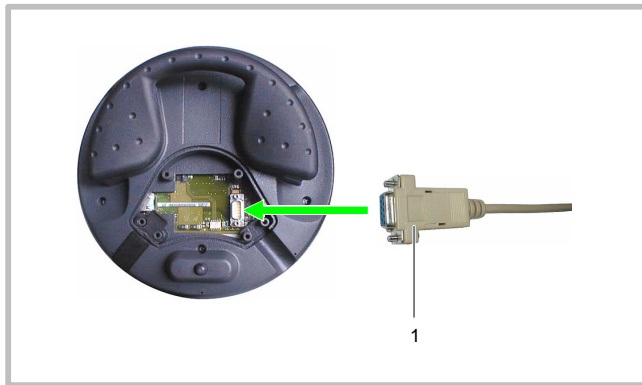

Figure 3-4 Connecting the RS 232 cable
1. Connect the plug on the RS 232 cable to the contact point as illustrated in Figure 3-4.